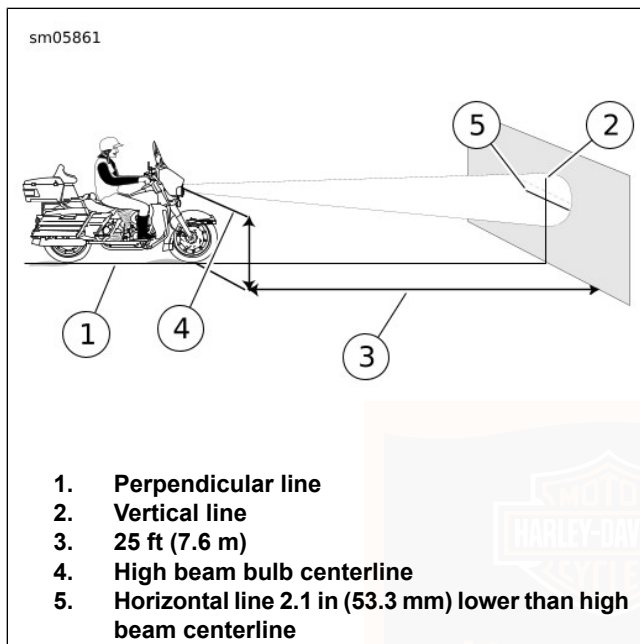

Figure 89. Headlamp Alignment: Quartz Halogen Type
4. See Figure 89. Park the motorcycle on a line (1) perpendicular to the wall.
6. Draw a vertical centerline (2) on the wall aligned with line (1).
7. With the motorcycle loaded, point the front wheel straight forward at wall. Measure the distance (4) from the floor to the bulb centerline:
8. Draw a horizontal line (5) through the vertical line:
- a. **Quartz halogen:** See Figure 89. 53.3 mm (2.1 in) lower than the measured distance.
- c. **LED, frame-mounted fairing:** See Figure 89. 53.3 mm (2.1 in) lower than the measured distance.
- a. **Quartz halogen:** See Figure 89. Hot spot centered on mark with headlamp set to **high beam**.